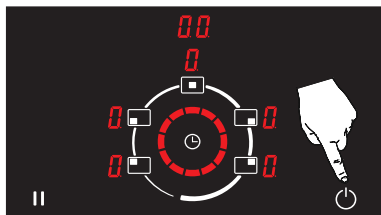

Figure 35
1. The auto cooking function (**A**) is terminated by pressing the on/off button (). (See Fig. 35)